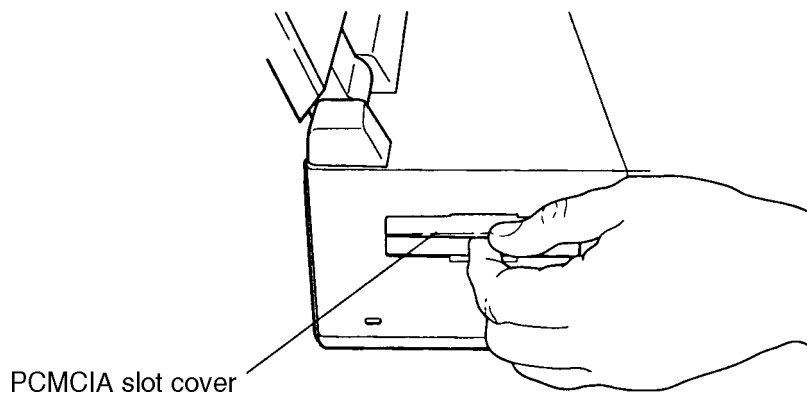

Figure 4-1 Opening the PCMCIA Slot Cover
To remove an optional PCMCIA card, follow the steps below and refer to Figures 4-1 through 4-3.
3. Locate the **PCMCIA slot cover** and slide it up to expose the PCMCIA card (Figure 4-1).
To install an optional PCMCIA card in the T6600C, follow the steps below and refer to Figures 4-1 and 4-2.
1. Slide the **PCMCIA slot cover** up to expose the PCMCIA slot (Figure 4-1).
5. Close the **PCMCIA slot cover** (Figure 4-1).